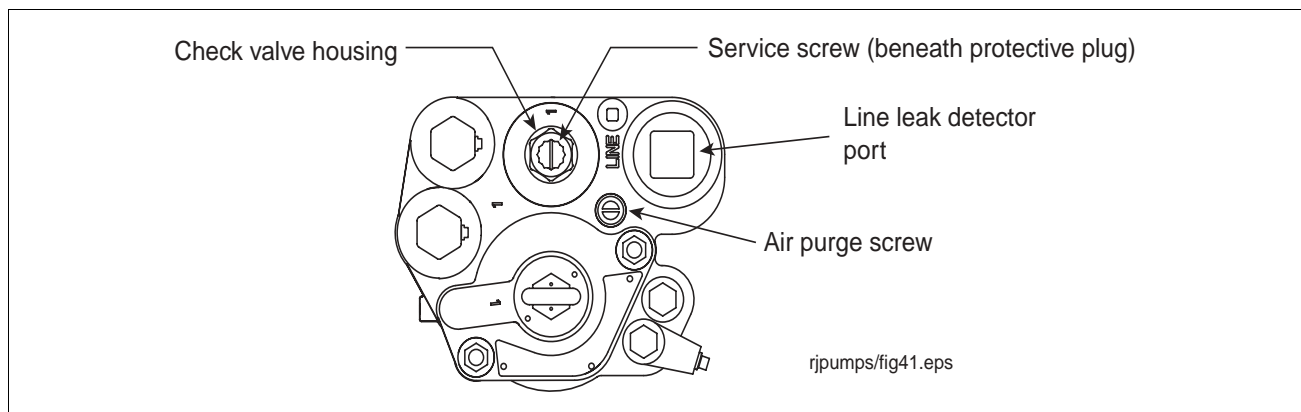

Figure 45. Locating air purge screw
2. Remove and save the protective plug in the top of the check valve housing and turn the service screw clockwise (see Figure 45). As the screw approaches its bottom position, you will hear the system depressurizing. Continue turning the screw until it can go no further. When the screw is all the way down, backoff the screw 4 turns to lift the check valve and let the fuel drain out of the manifold's hydraulic cavities.
5. Locate the air purge screw on the top of the manifold (Figure 45).